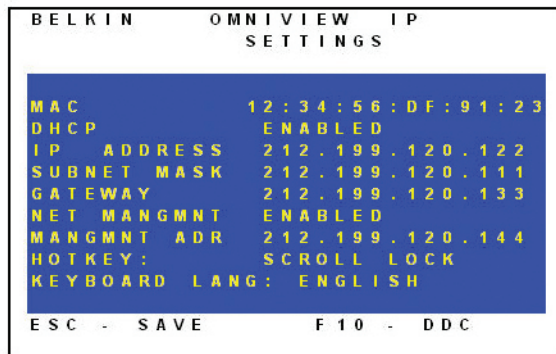

Figure 11 Settings window
2. Press "F2". The Settings window appears (see Figure 11).